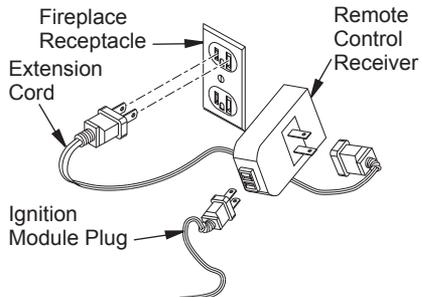

Figure 48 - Connecting WRC Remote Control Electronic
2. The WRC model receiver does not require a battery. To install receiver plug short extension cord into fireplace receptacle. Plug receiver unit into extension cord. Plug ignition module plug into receiver unit (see Figure 48).